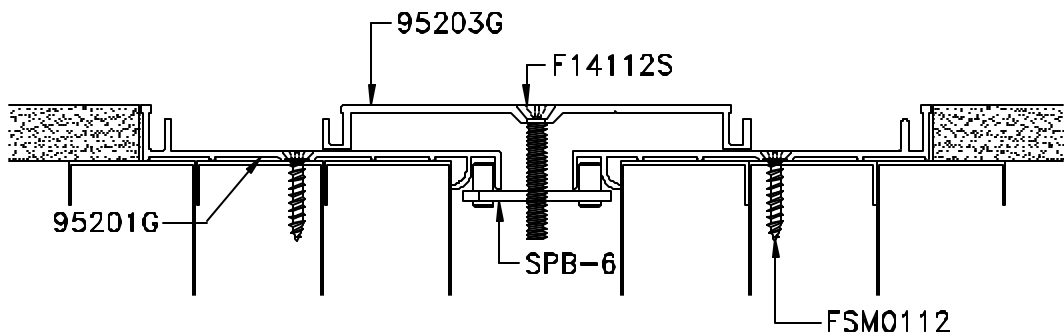

Figure 14
- STEP 28.** Put the cover plate, with centering bars attached, into position over the joint. Tighten the centering bar bolts by hand until they are firmly in place (see Figure 14). Do not overtighten the centering bar bolts.